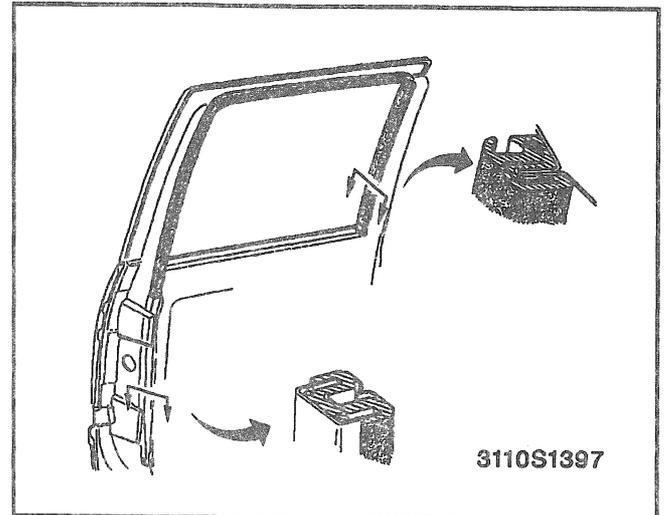

Figure 77—Rear Door Window Weatherstrip
4. Glass weatherstrip (Figure 77).
2. Glass weatherstrip (Figure 77).
**Remove or Disconnect (Figure 77)**
**Install or Connect (Figure 77)**